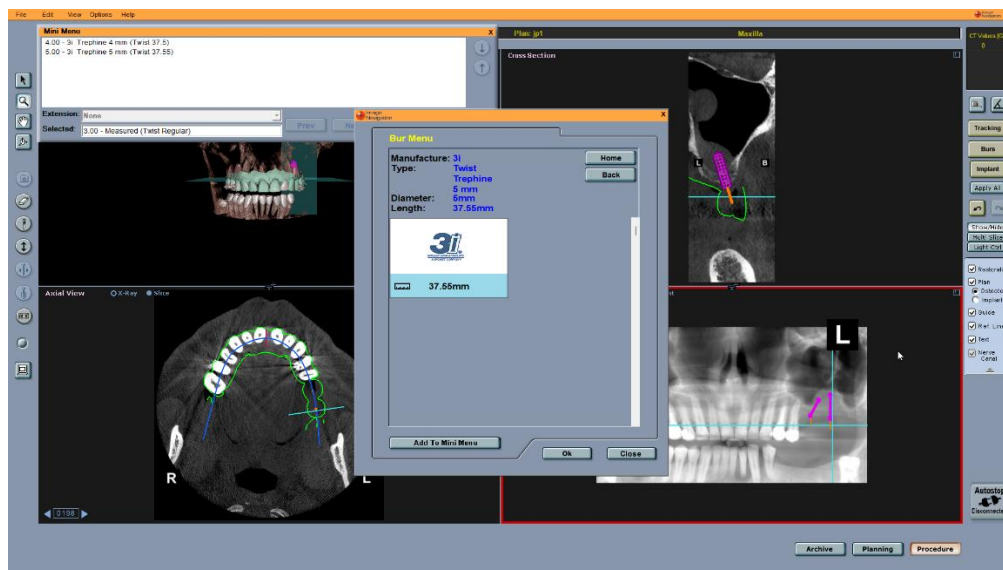

Figure 55: Bur Selection from (Dentist filled) Bur Menu and Bur Mini Menu
- From the **File** menu, select **Save As** to save a separate file of the modified plan (see **Figure 55: File Menu**, on page 107).
- To load another saved plan of the current session, from the **File** menu, select **Load** (see **Figure 55: File Menu on page 107**).
- To save a copy of the loaded plan, from the **File** menu, select **Save a Copy** (see **Figure 55: File Menu** on page 107).
- To save the Mini Menu, firstly close the **Bur Menu**. Then, from the **File** menu, select **Save Mini Menu** (see **Figure 55: File Menu** on page 107). The Save As window, for saving a Mini Menu, opens.
- To load a saved Mini Menu, from the **File** menu, select **Load Mini Menu** (see **Figure 55: File Menu** on page 107).
- To delete one of the saved Mini Menus, from the **File** menu, select **Delete Mini Menu** (see **Figure 55: File Menu**, page 107).